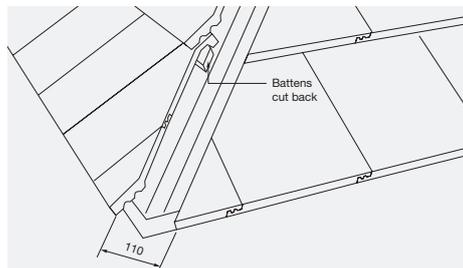

Fig. 1a – If using low profile tiles (depth less than 85mm) form a gap of 110mm at hip
- 3 If using low profile tiles with depth from rafters to top of tile of less than 85mm, the battens need to be cut back to the width of 110mm and the hip batten section screwed directly to the roof structure (Fig. 1a).